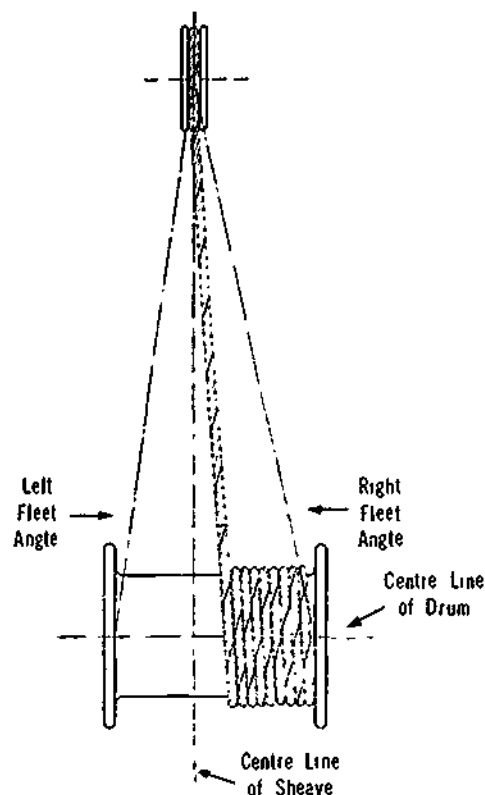

Figure 7-69. Fleet Angles
**Fleet Angle** The fleet angle is that angle between the centre line through the first fixed sheave perpendicular to the axis of the drum shaft and the centre line of the rope leading to the drum (Figure 7-69). Excessive fleet angles can cause serious damage to wire rope, sheaves and grooved drums. Severe scuffing results when rope wears against groove walls, grinding them down and causing the rope to become bruised or crushed.